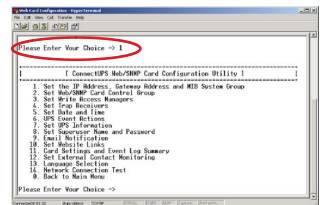

Figure 9. Configure Card Settings
1. Type **1** on the Main Menu to display the Web/SNMP Card Settings screen (see Figure 9).